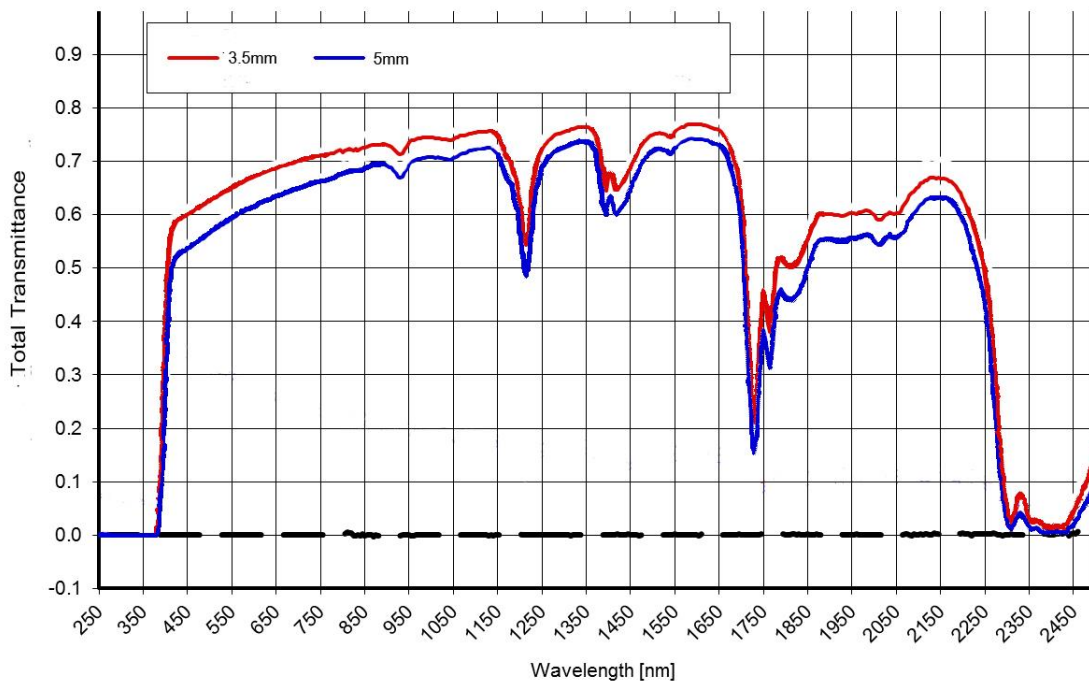

Figure 6
**Full spectral light** results in optimal photosynthesis. The optimal growing range is the same as the visual spectrum; however, plants do not use the green spectrum for photosynthesis as the leaves reflect it, rather than absorb the light. (See Figure 6 below for the full spectral graph of Solexx Transmittance)
Light transmitted through Solexx produces full spectrum light. In figure 6, the x axis (horizontal) represents the light spectrum from 250 to 2500 nm, while the y axis (vertical) represents the total percent transmittance. The red and blue lines show the total transmittance over the light spectrum. The baseline appears as 0.0 on the y axis. The red line represents the results of two samples of 3.5mm Solexx and the blue lines represents two samples of 5 mm Solexx. Due to its twin walled construction and since Solexx is installed vertically (V) and horizontally (H), Solexx was tested in both directions with no significant difference in performance. The total transmittance was very high for the photosynthetically active radiation range in both the 3.5 mm and 5 mm Solexx. In the ultraviolet range, both thicknesses block out all UV below the 380 nm level due to the UV inhibitor in the Solexx. A small divergence in performance occurs for Solexx in the infrared